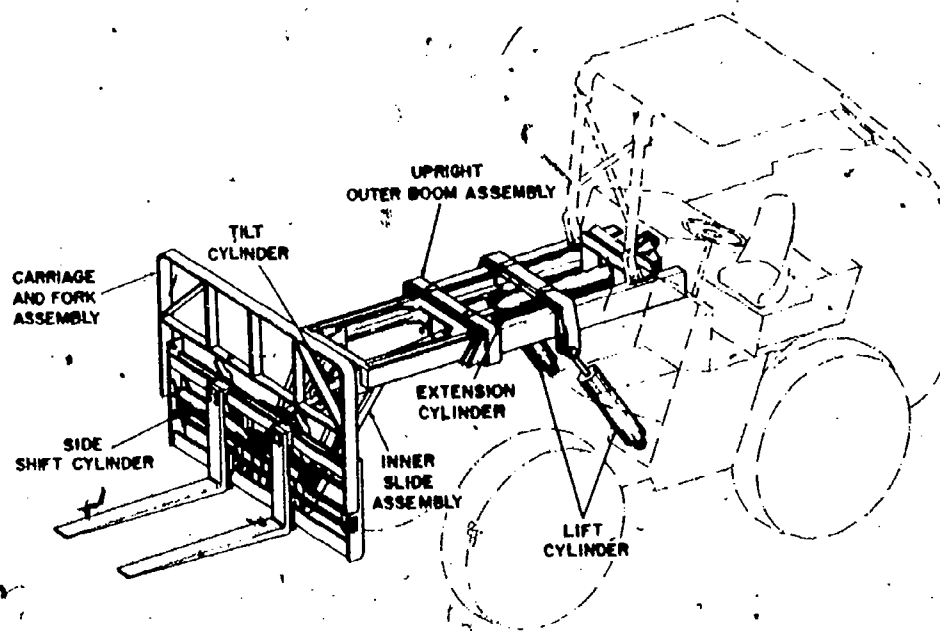

Fig 5-5. Forklift mechanism.
b. Common mechanisms. The forklift mechanism (fig 5-5) of these vehicles consists of three assemblies: the carriage and fork assembly; upright tilt cylinder and inner slide assembly; and the upright outer boom assembly. The carriage and fork assembly mounted at the extreme front of these vehicles consists of the roller chains, sprockets, two lift forks, slide shift cylinder assembly, and the fork carriage. The upright tilt cylinder and inner slide assembly is mounted at the front of the vehicle. It is attached to the carriage and fork assembly and is mounted within the upright outer boom assembly. It consists of the tilt cylinder and inner slide assembly. The upright outer boom assembly is attached at a pivot point in approximately the center of the vehicle, just ahead and slightly to the right of the operator's compartment. It attaches to the inner slide assembly and consists of the extension cylinder assembly and the outer boom assembly. The vehicle hydraulic system consists of the hydraulic supply tank assembly, hydraulic pump and the following functional systems: brake system, steering system, and forklift system.